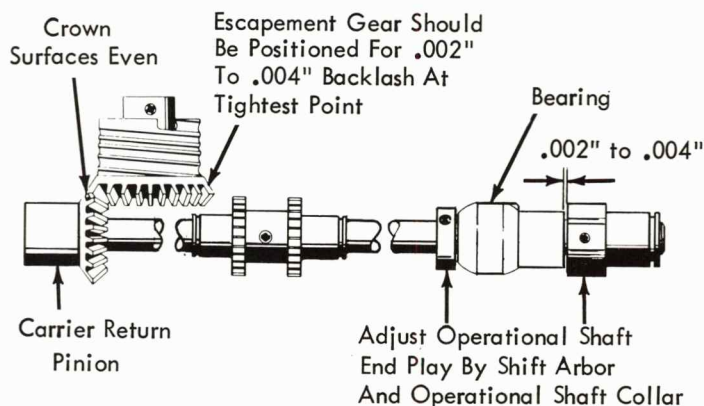

FIGURE 108. Gear Mesh and Operational Shaft Adjustment
- a. Adjust the operational shaft laterally so that the crown surfaces of the escapement cord drum gear and the carrier return pinion are even (Fig. 108).